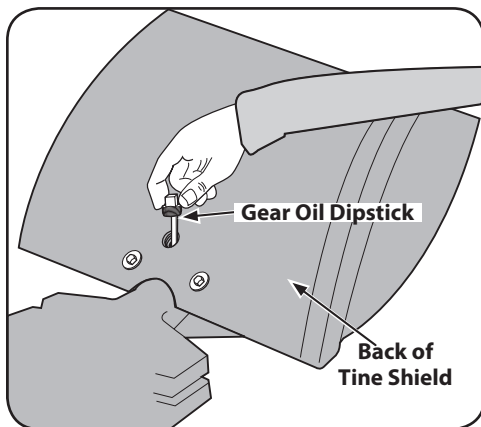

Figure 5-7
**NOTE:** Two different gear oil checking procedures for the tine attachment transmission are described next. Use the first procedure if the dipstick in your tine attachment has only a 'Check Cold' marking. Use the second procedure if the dipstick has both cold and hot markings at the end. First remove the dipstick from the tine attachment transmission to see which type of dipstick you have. See Figure 5-7. Then replace the dipstick with the markings on the dipstick facing to the rear.
on the back of the tine shield. See Figure 5-7. Wipe it clean with a rag.
7. Hold the dipstick so its markings face to the rear of tiller. Lower it straight down into the sump hole to touch the drive shaft inside. See Figure 5-7. Don't force or try to thread it back in; an incorrect reading will result.
Set the handlebar base and bolt aside on a clean surface. The bolt hole in the top of the transmission is the gear oil fill hole. See Figure 5-7.
3. Slowly pour gear oil through a clean funnel into the transmission. Stop when gear oil begins to flow from the oil level check hole on the left side of the transmission. See Figure 5-7.